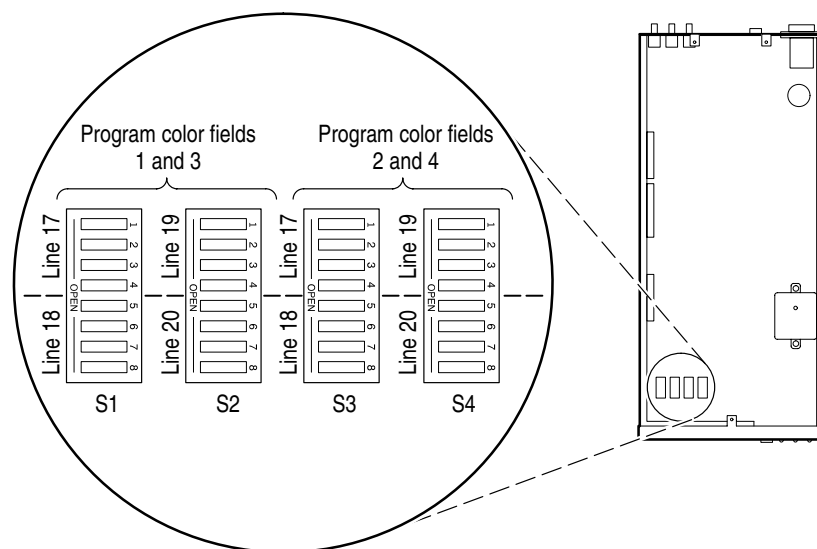

Figure 5–1: VITS selection DIP switches
1. Remove the small access plate from the top of the VITS inserter and check the settings of dual-inline-package (DIP) switches S1–S4 (see Figure 5–1). Record the settings so you can restore them once you complete this procedure.